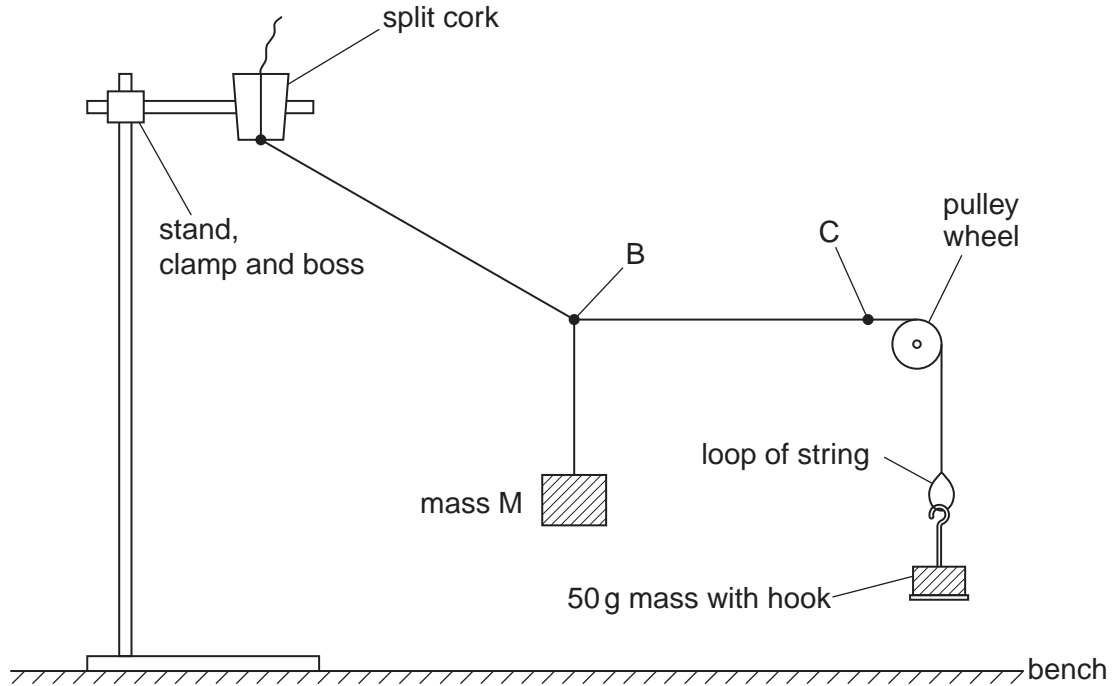

Fig. 1.2 (apparatus to be set up by the candidate)
6. The **candidate** will set up the apparatus as shown in Fig. 1.2. The candidate will hook the 50g mass onto the loop on the string and adjust the position and height of the pulley so that the length of string BC is horizontal.